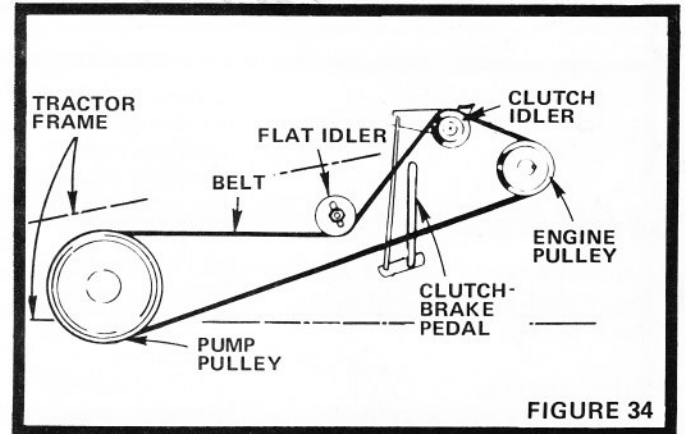

FIGURE 34
- Remove Belt from Clutch Idler by depressing Clutch-Brake Pedal (Fig. 34).